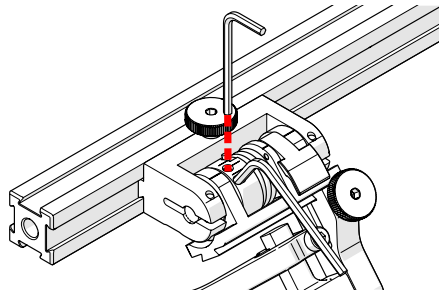

Fig. 89 - Insert hex wrenches
4. Place the 2 mm hex wrench into the force adjustment screw (Fig. 89).